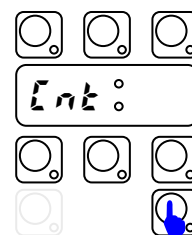

Fig. 4.3
- Use CYCLE\_1 key to decrease the value and CYCLE\_2 key to increase (Fig.4.3);